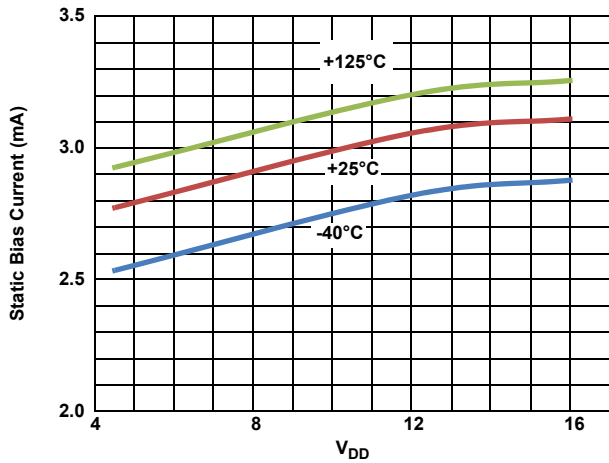

Figure 11. IDD vs VDD (STATIC)
- $I_{DD}(\text{freq})$  = Bias current at the switching frequency (see Figure 11)